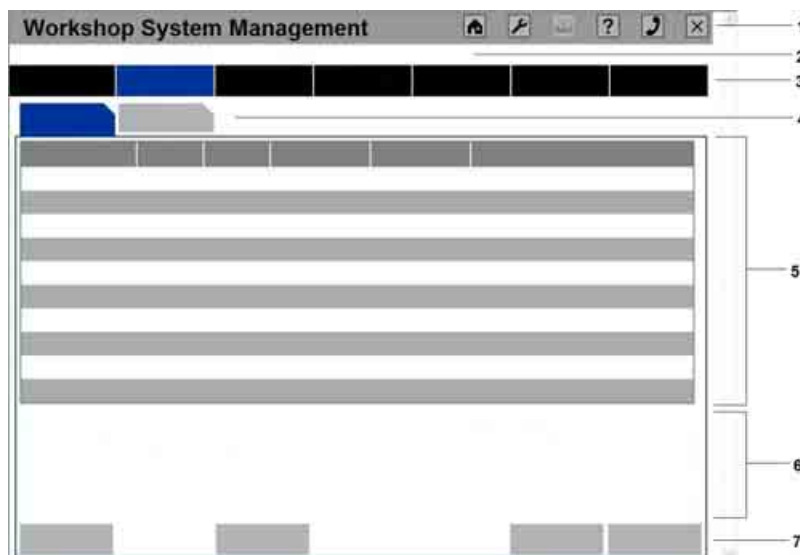

Fig. 14: Layout of the Web interface
The Web interface of the WSM is divided into various areas for different information (see Fig. 14). These are explained in the following subsections.
Legend (Fig. 14):
The icon bar (see Fig. 14, item (1)) is visible in all screens. A short explanation of the icons and their function is provided in the following table. Detailed information is given in chapter 5.1.1.
The header (see Fig. 14, item (2)) contains details about the selected device.
The menu contains a main menu (see Fig. 14, item (3)) and possibly a number of submenus.
The tab bar (see Fig. 14, item (4)) determines the individual screens of each menu that contain the corresponding information.
The workspace (see Fig. 14, item (5)) can be divided into various parts and can contain information as well as input options.
General or additional information, e.g. the time or available updates, appears in the information area (see Fig. 14, item (6)).